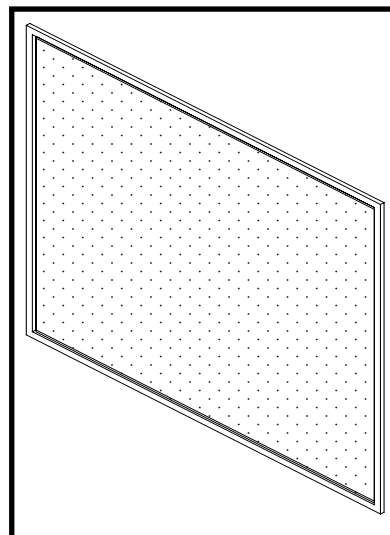

Figure 58: Safety barrier screen.
6. Attach the magnetic safety barrier screen (Figure 58) to the outer-most door frame.